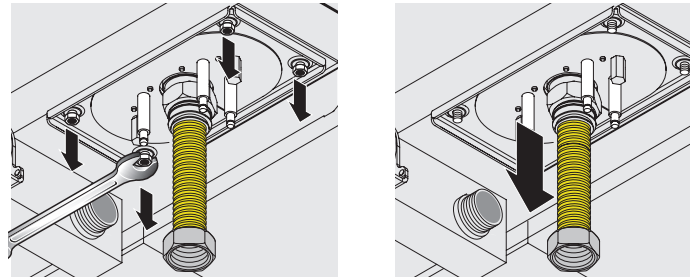

Figure 7
- c) Remove the four screws of the torch plate and the 2 or 3 rods nuts that hold each heat exchanger as shown in Figure 7.